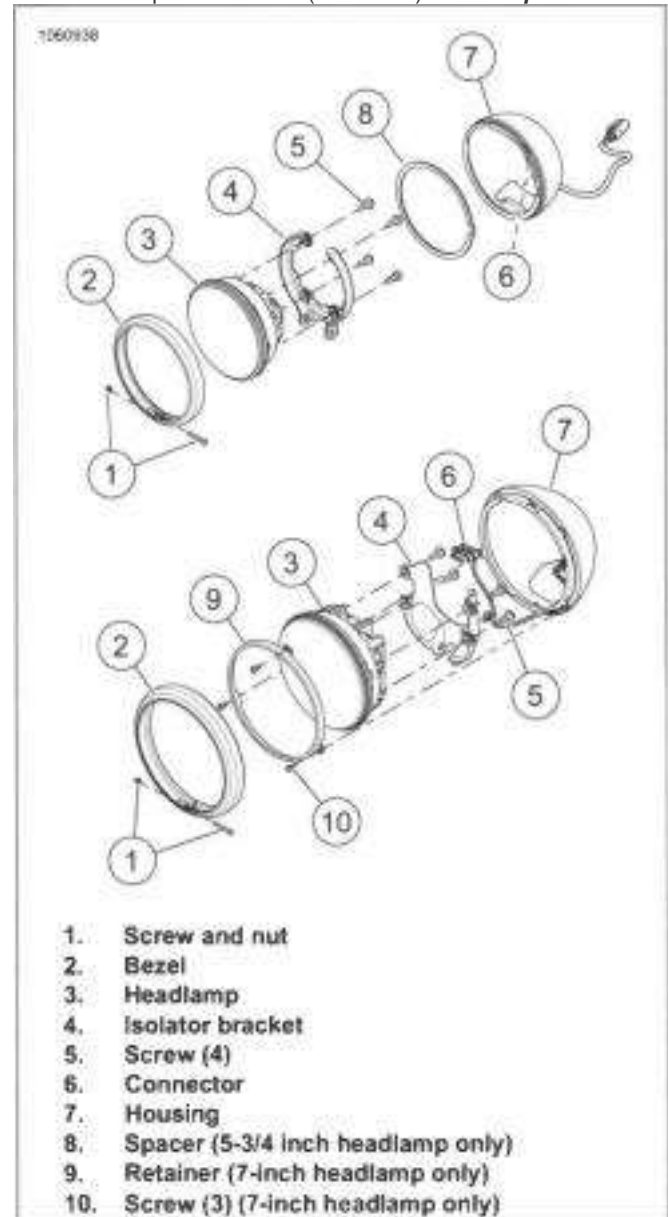

Figure 7-40. Round Headlamp
1. See Figure 7-40. Remove screw and nut (1).
2. Remove bezel (2).
3. 7-inch headlamp only: Remove screws (10) and retainer (9).
4. 5-3/4 headlamp only: Remove spacer (8).
5. Remove headlamp (3) from housing (7).
6. Disconnect connector (6).
7. Remove screws (5).
8. Remove isolator bracket (4).
1. See Figure 7-40. Position isolator bracket (4) on headlamp (3).
2. Install screws (5). Tighten.